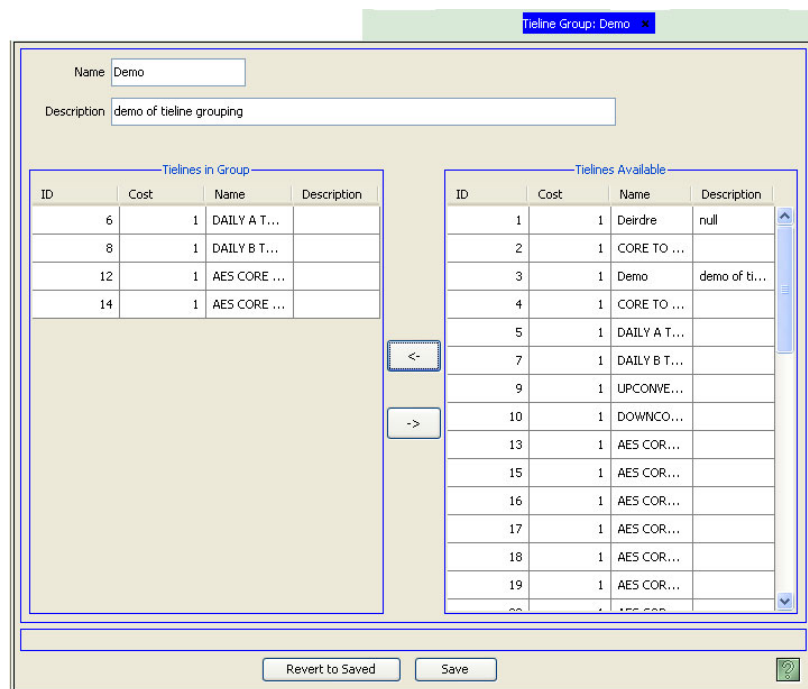

Figure 16-23. Tieline Group Details Page
- 4 Select a tieline from 'Tielines Available' list and click the left facing arrow. The tieline appears in the 'Tielines in Group' section, as shown in Figure 16-23. Continue until all tielines you want to add appear in the 'Tielines in Group' list. To remove a tieline from the group, select the tieline and click the right facing arrow,